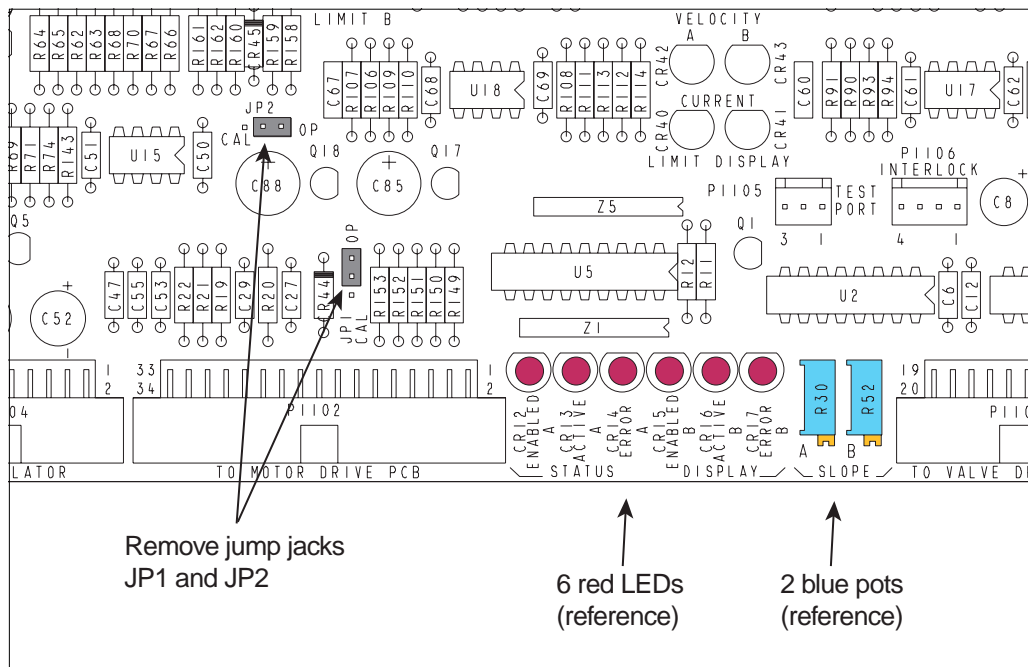

Figure 4. Locating Puff Circuit Jump Jack
3. Locate the T19401-G2 or T18021-G1 VaporVac controller printed circuit board assembly. The VaporVac controller PCA has six red LED's and two blue potentiometers on the very front of the board that can be used as a good visual indicator (see Figure 4).
4. Next, locate the jump jack behind connector P1102 (see Figure 4). You will also see "CAL" and "OP" on each end of the jump jack positions.